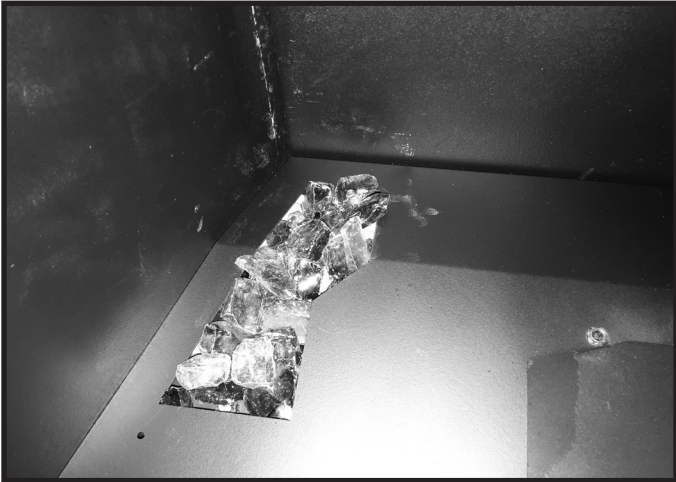

Figure 12
11. Install the burner assembly, one (1) screw.
12. Install the base pan assembly, five (5) screws.
15. Install ember rocks by placing directly on the accent glass. Cover until the ember rocks are approximately level with the basepan. Each side will use less than half of the bag of ember rocks. See Figures 12 & 13.